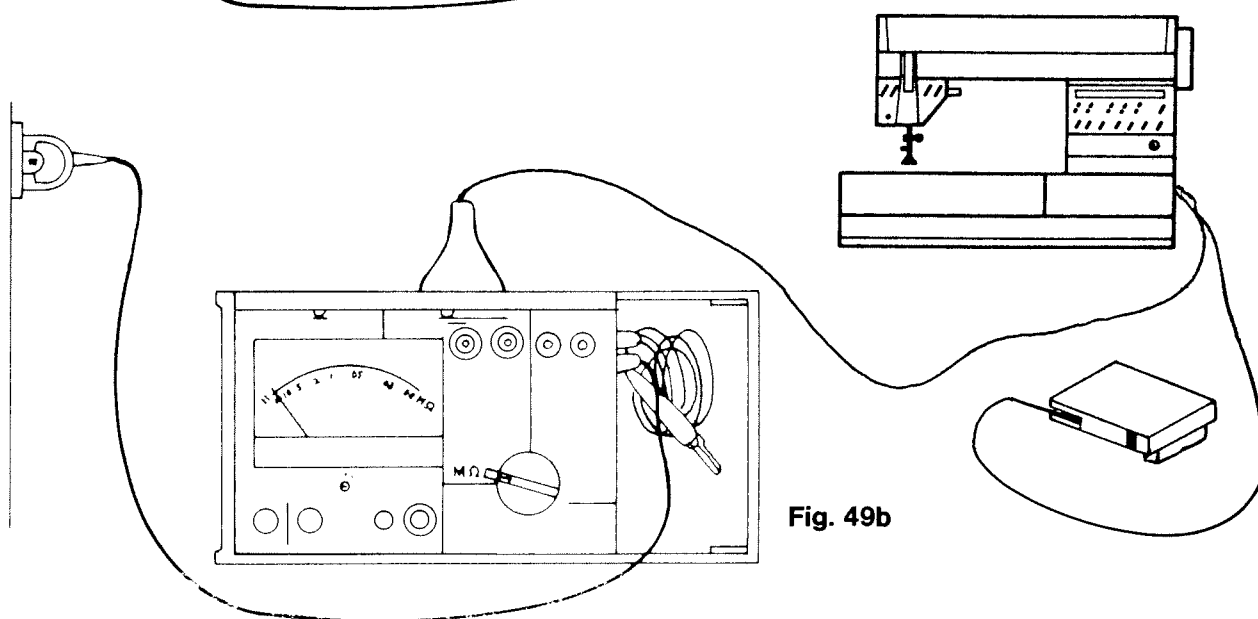

Fig. 49b
- Set switch at M  $\Omega$  (scale II) (see Fig. 49b).